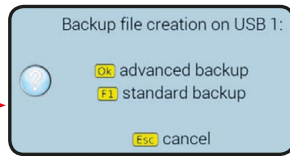

Fig. 301
- Select **Delete all backup files on USB1** (Fig. 301) and press **OK**. The monitor requires to confirm the deletion (**OK**: confirm, **ESC**: cancel).